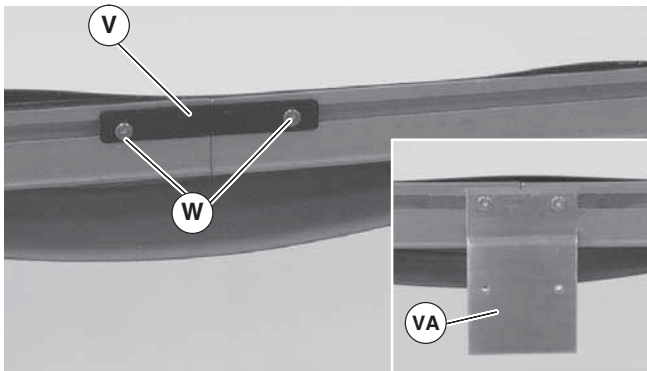

Figure 7
4. Join conveyor sections and install frame connector plates (Figure 7, item V) or connector/mount brackets (VA) and screws (W) on both sides as indicated. Tighten screws to 60 in-lb (7 Nm).